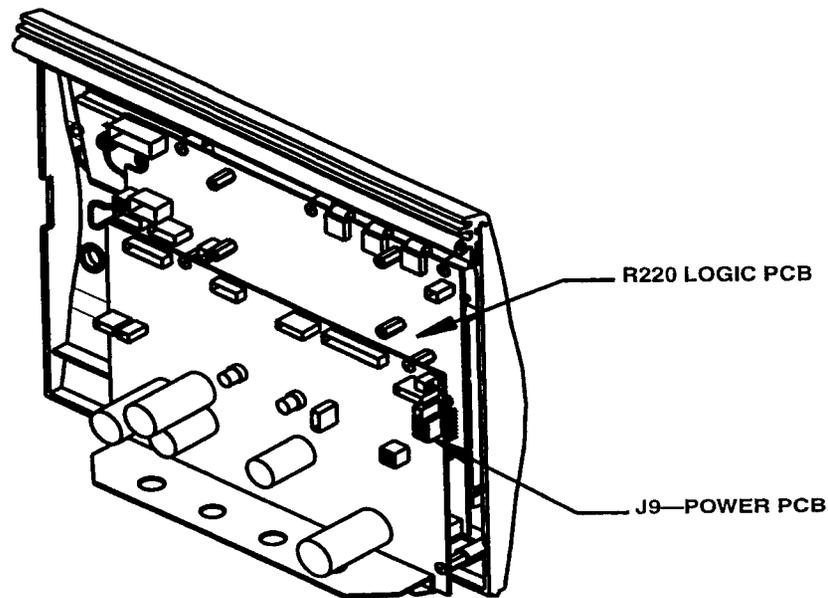

FIGURE 5-4.
6. Adjust R220 on the logic circuit assembly with a small, non-conductive screwdriver until the display is at its brightest and the "flutter" is at a minimum. See Figure 5-4.